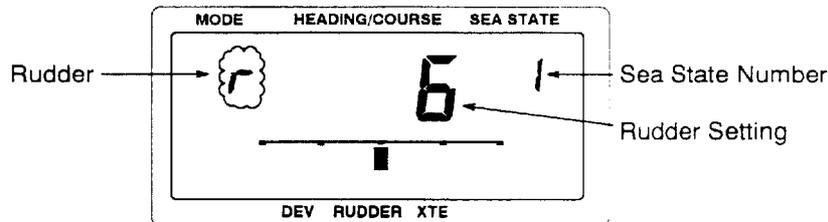

Fig. 4-2 Items in the user's mode
3. Press the  key to select item to adjust. Fig 4-2 shows the items available and the selection sequence when pressing the  key.
As shown in Fig.4-2 the USER'S mode contains five items. In the default setting, counter rudder and automatic trim sensitivity are disabled since frequent adjustment of them is usually not required. You can enable them, or disable other items, by doing the following.
2. Press  to select item. Each pressing this key changes item as shown in Fig.4-2.